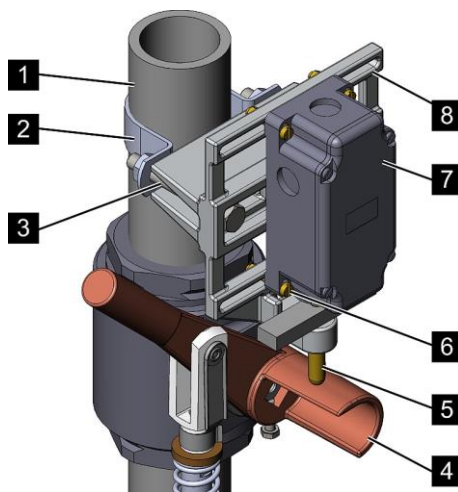

Fig. 105: Mounting the limit switches
3. ➤ Place the pipe clamp (Fig. 105/2) around the output pipe (Fig. 105/1) of the selector valve.
4. ➤ Insert the hex bolts (Fig. 105/3) through the bracket (Fig. 105/8) of the limit switch and of the pipe clamp (Fig. 105/2).
6. ➤ Align the bracket (Fig. 105/8) of the limit switch in such a manner that the tappet (Fig. 105/5) rests on the eccentric of the operating element (Fig. 105/4).
7. ➤ Tighten the hex bolts (Fig. 105/3).
8. ➤ Place the limit switch (Fig. 105/7) with the bolts (Fig. 105/6) on the bracket in such a manner that the bolts fit through the slotted holes of the bracket (Fig. 105/8).